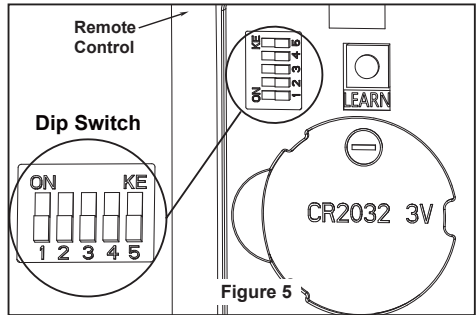

Figure 5
- ☐ 5. To set the remote code same positions as the receiver with a small screwdriver or ball point pen (neither included), slide dip switches firmly up or down. (Figure 5)